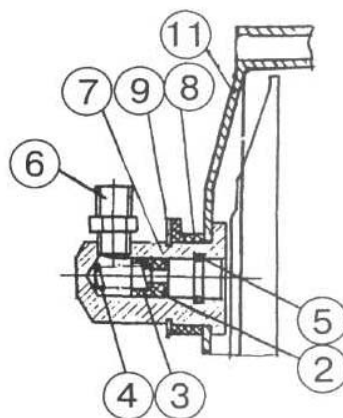

Figure 4.105
- c) unscrew connection pipe 6 (Figure 4.105) off adapter 7;